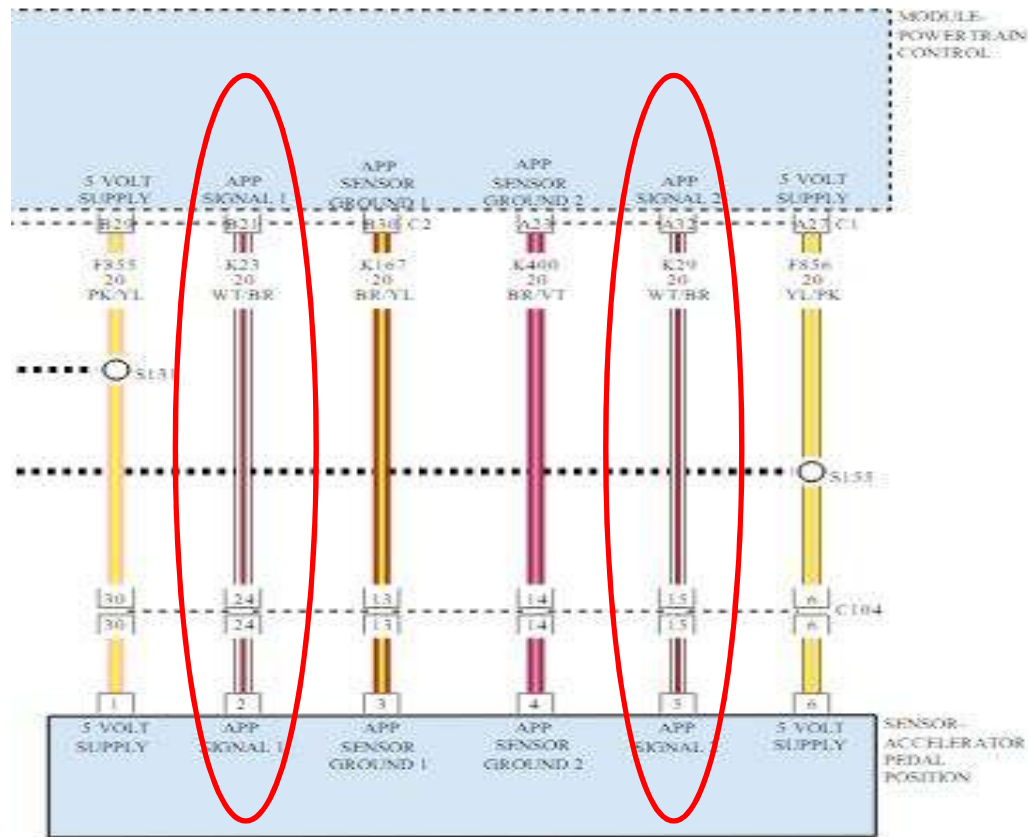

Figure 1 (Accelerator pedal position sensor - APPS)
5. Locate Accelerator Pedal Position Sensor (APPS) (**Figure 1**).
6. Connect the AUTO-BLiP RED wire and GREEN wire, one each to the (2) **WHITE/BROWN** wires on the APPS sensor (**Figure 1**).